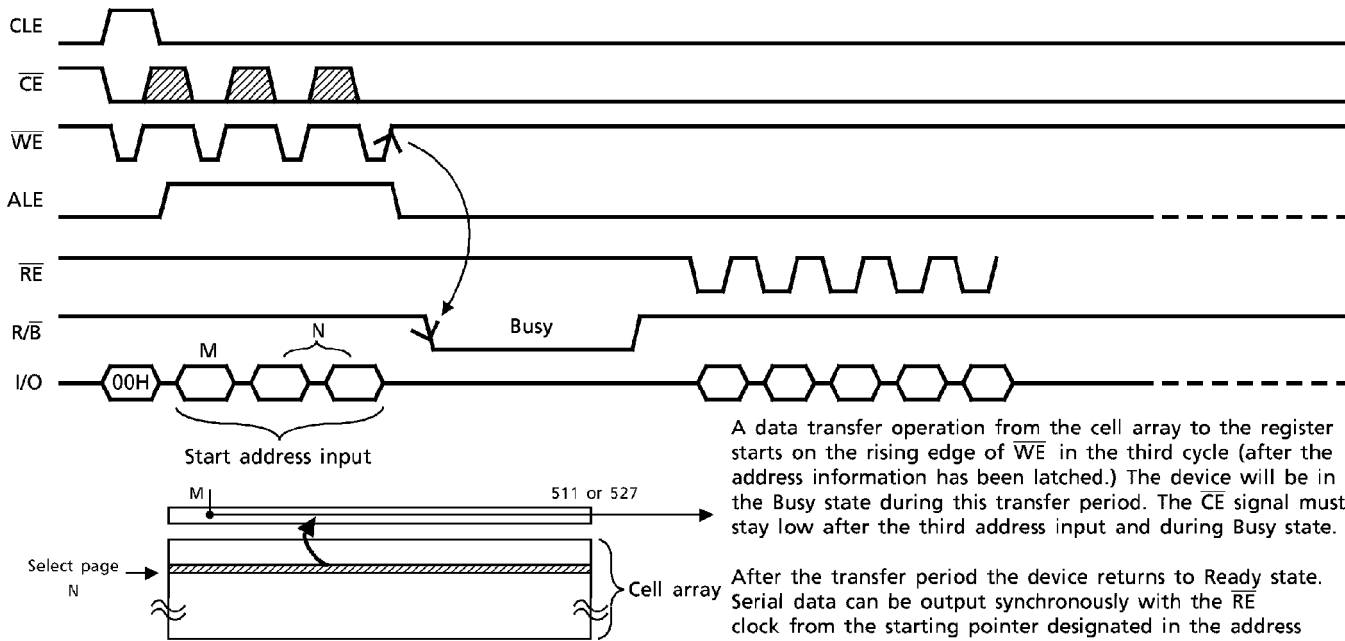

Figure 4. Read mode (1) operation
Read mode (1) is set by issuing a "00H" command to the command register. Refer to Figure 4 below for timing details and a block diagram.